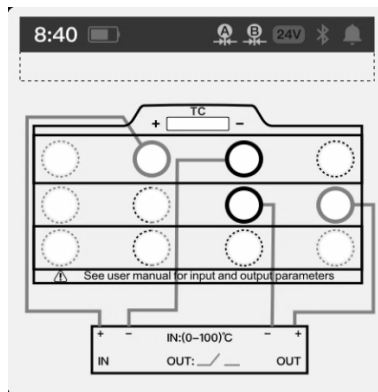

Figure 31 Temperature switch
- ◆ Connect the DUT with the measurement and output module of the calibrator, as shown in the Figure 31.